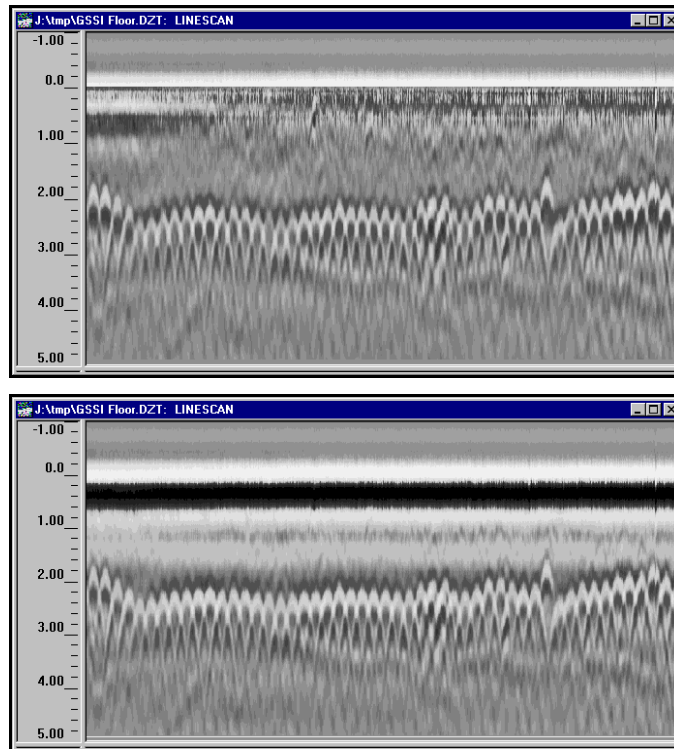

Figure 68: Data processed with (top) without (bottom) background removal.
- **Specified Scan** option allows the user to subtract a single scan of his choice by specifying the Background Scan number. Figure 68 shows data obtained over a concrete floor with and without the background removal option used, respectively. If an airwave or other single scan is to be removed from the data, this option would be used.